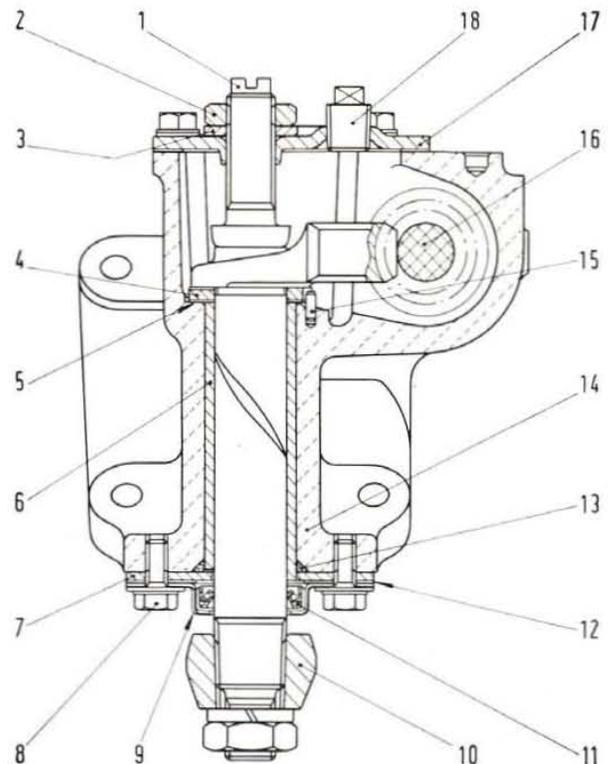

Fig. 278 - Sectional view of the steering gear at sector.
Check clearance between eccentric bushing (6, fig. 278) and sector shaft.
- back out the screws (8, fig. 278) which retain the shim (7);
- turn the eccentric bushing (6) through the shim so to move the sector in toward the worm. Bushing rotation should be of such an extent as the fixing screws can enter subsequent holes in the shim.
The sector and worm teeth should mesh perfectly at center; if not so, move the sector back or forth, as required, by adding or removing shims (5, fig. 278) under the thrust washer (4) and against the shoulder of the eccentric bushing.
Next adjust the tooth lash through the adjusting screw (1, fig. 278) on cover; lock this screw with the nut (2).